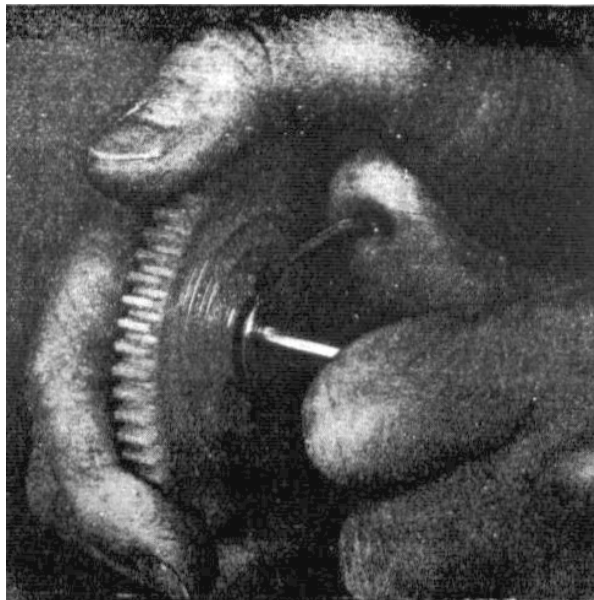

Figure 2. Checking for Loose Electrode
9. Inspect each gear for a loose electrode by grasping the gear firmly in one hand and alternately exerting clockwise and counterclockwise force against the electrode with maximum hand pressure. This should be done in a manner that would attempt to pivot the electrode around the axle (see figure 2). If any movement between the electrode and gear is detected, the gear must be discarded and replaced with a serviceable gear.